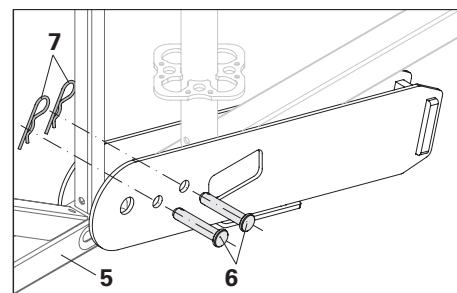

Fig. A1.05b
2. Slide the suspension tie connector (**50**) over the standard elements (**5**) and connect them with bolts (**6**) and cotter pins (**7**) – 2x. (Fig. A1.05b)